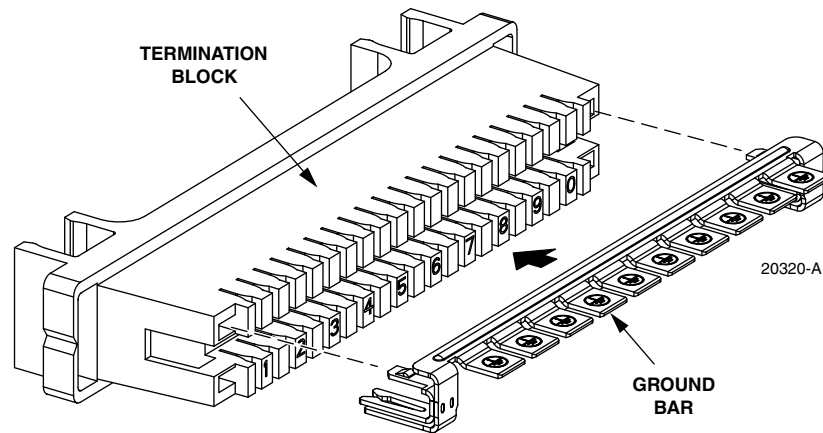

Figure 1. Ground Bar Installation
1. Install a ground bar on each termination block (Figure 1). The ground bar contacts the Back Mount Frame that the termination block is mounted on. One ground bar is required for each termination block.